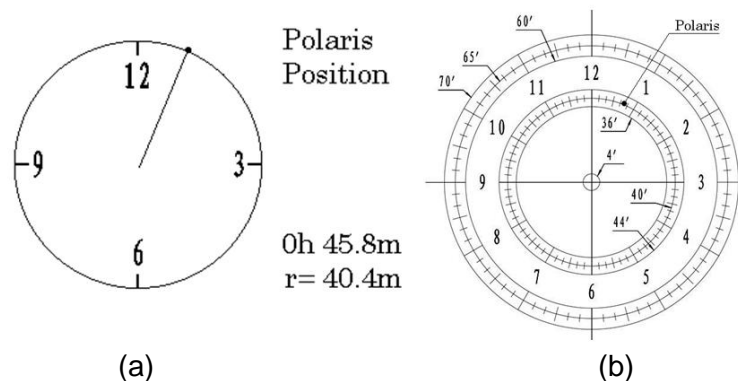

Figure 27. Polaris Position shown on HC (a) and where to put on polar scope reticle (b)
- (6) Look through the polar scope to find the Polaris. Use the Azimuth and Latitude Adjustment Knobs to adjust the mount in both directions and put the Polaris in the same position on the Polar Scope reticle as indicated on the HC display screen. In this case, Polaris will be located at a radius of 41.5 minutes and an angle of 1 hour 26.8 minutes, as shown In Figure 27 (b).